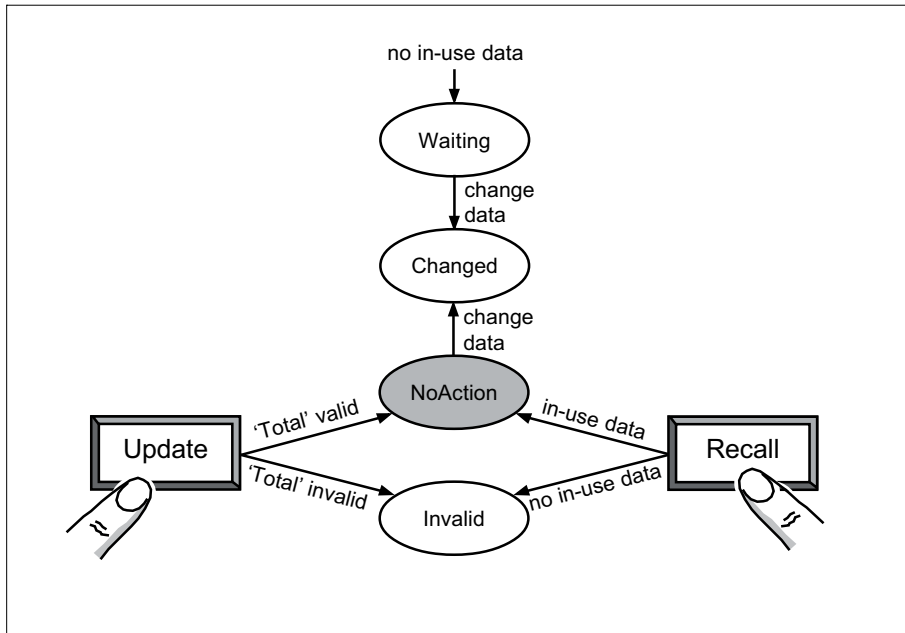

Figure 19 GasData parameter states
GasData. (Waiting/NoAction/Changed/Invalid/Update/Recall). This field acts as an operator monitor/control interface between the visible data entered in the *Methane* to *Argon* fields, and the (hidden) validated copy of this data actually in use by the associated AGA8DATA block(s). (See the *Block function* section above). *Figure 19* shows the relationships between the items in the *GasData* menu. The items are as follows.
- **NoAction.** The normal running state of the block (shaded in *Figure 19*). Indicates that calculations are running and the visible entered composition data and the hidden in-use data are the same. No operator action is required.